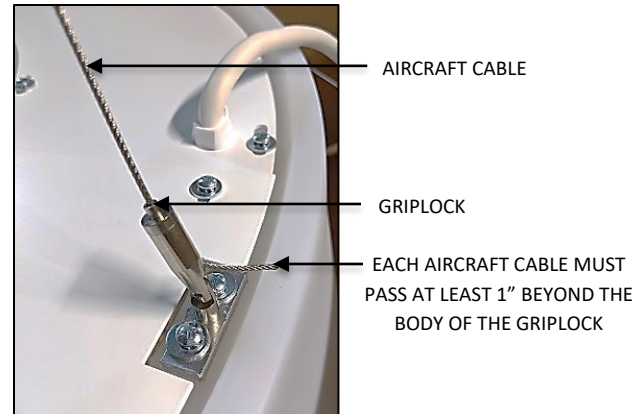

FIG. 17 – AIRCRAFT CABLE INSTALLATION
14. To feed AIRCRAFT CABLE into the GRIPLOCK, press the plunger of the GRIPLOCK and insert the AIRCRAFT CABLE into the body of the GRIPLOCK as shown in FIG. 17.